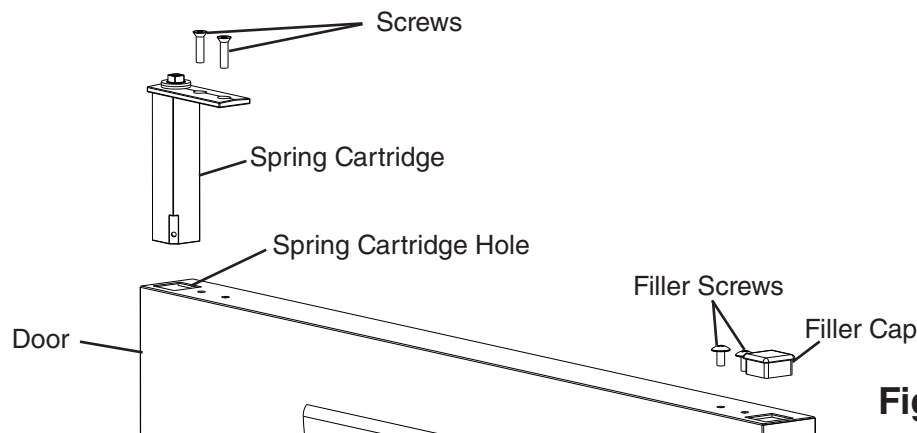

**Fig. 16**
- 9) Clear foam from the spring cartridge hole to allow for spring cartridge installation. See Fig. 16. Install the spring cartridge in its new location. Reinstall the filler cap and filler screws on the opposite side of the door.